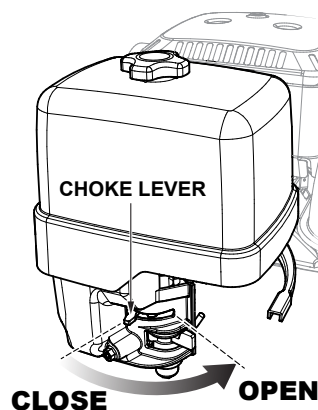

Figure 14. Engine Choke Lever (Open)
3. Place the choke lever in the **OPEN** position (Figure 14) if starting a warm engine, or if the ambient temperature is warm.